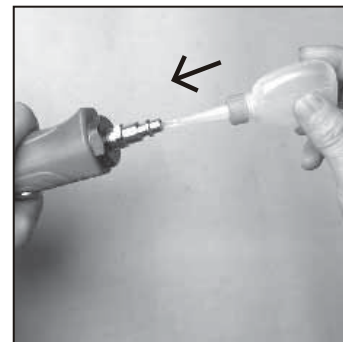

Figure 8
2. Place a few drops of air tool oil into the inlet. (Figure 8)